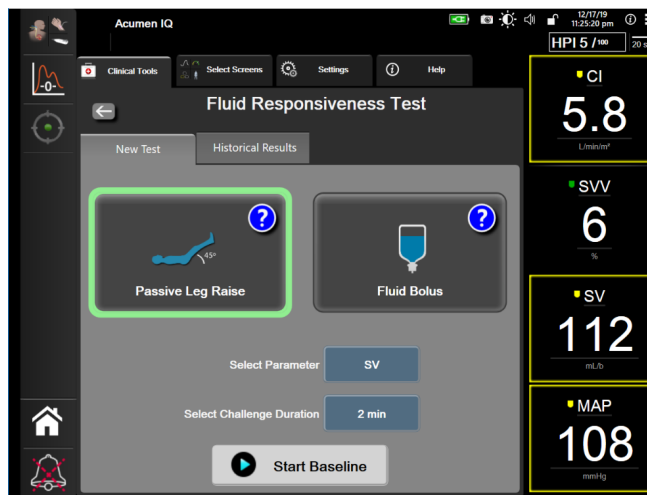

Figure 14-11 Fluid Responsiveness Test – New Test Screen
- 3 On the **New Test** tab (see Figure 14-11), touch the desired test type: **Passive Leg Raise** or **Fluid Bolus**.